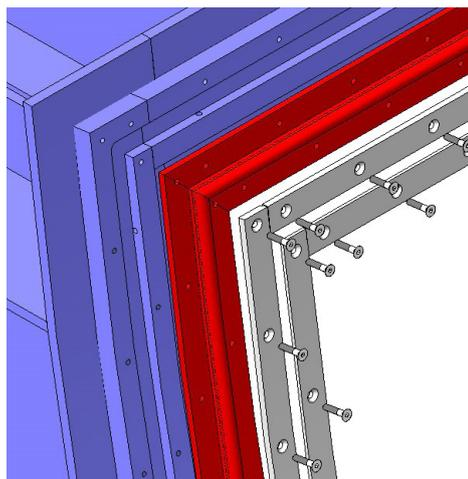

Fig. 15
- Mount the entire seals system on the concreted mouth in the civil engineering work. Position the watertight gaskets and secure them with the seal flanges, bolting them down (fig. 15).